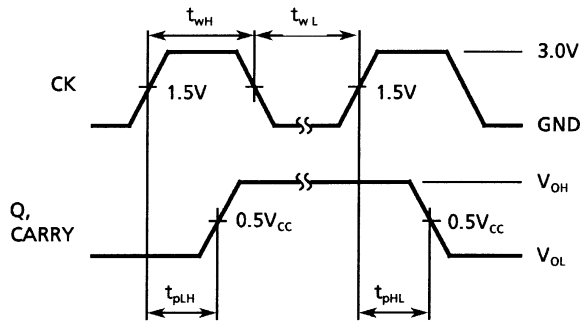

Figure 1
| Minimum pulse width (CK) | t _w (L) t _w (H) | Figure 1 | 5.0 ± 0.5 | 5.0 | 5.0 | ns | |
| Propagation delay time (CK-Q) | t _{pLH} t _{pHL} | Figure 1 | 5.0 ± 0.5 | — | 7.2 | 10.5 | 1.0 | 12.0 | ns |
| Propagation delay time (CK-CARRY, count mode) | t _{pLH} t _{pHL} | Figure 1 | 5.0 ± 0.5 | — | 8.5 | 13.0 | 1.0 | 15.0 | ns |